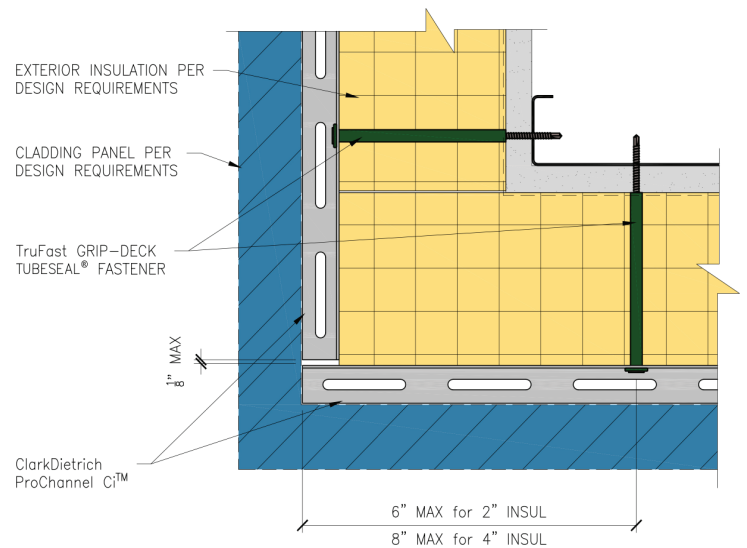

Figure 4
**Step 5** For Inside or outside corners, the ProChannel Ci may cantilever past the last fastening point; but it is recommended to stay within 6 inches for 2" insulation or 8 inches for 4" insulation from the corners. (see Fig. 4 and Figure 5 for details).